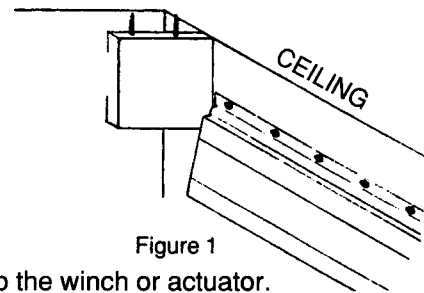

Figure 1
8. Allowing at least 5½" (13.97cm) for the end panel (Figure 1), install a heavy duty single 3½" (8.89cm) pulley in line with the rod to turn the cable to the winch or actuator. The pulley can be lagged to the ceiling or the wall as long as the location of the pulley provides a direct "in-line" pull with the rod. If mounted to the wall, construct wood or metal framing to position the pulley away from the wall and in line with the rod. If it is off line, the rod will drag against the closest screw eye causing drag and loosening of the screw eye. Ensure the lag screws penetrate structural material sufficient to bear the load.